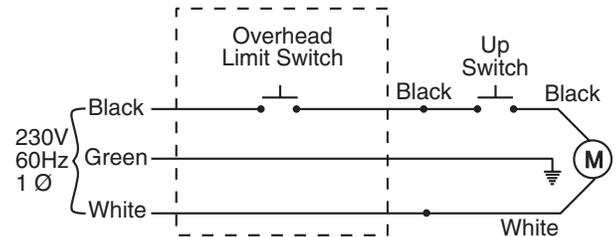

Fig. 19
14. Electrical (1Ø Only): Have a certified electrician run appropriate power supply to motor, Figs. 19 thru 21. Size wire for 20 amp circuit. See Motor Operating Data Table.
IMPORTANT: Use separate circuit for each power unit. Protect each circuit with time delay fuse or circuit breaker. For single phase 208-230V, use 20 amp fuse. Three phase 208-240V, use 20 amp fuse. For three phase 400V and above, use 10 amp fuse. For wiring see Figs. 19 thru 23. All wiring must comply with NEC and all local electrical codes.
15. Overhead switch: Check overhead switch assembly to assure that switch bar is depressing switch plunger sufficiently to actuate the switch. The overhead switch is wired normally open, see Figs. 19 thru 23. Lift will not operate until weight of switch bar is depressing switch plunger. Verify that Power Unit stops working when switch bar is raised, and re-starts when the bar is released.